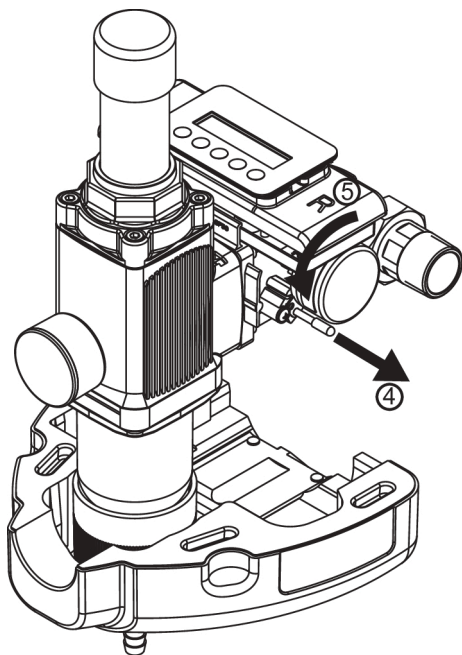

Fig. 10: Remove the red locking pin and rotate the motor
4. Remove the red locking pin (see Figure 10).
5. Turn the motor **counter-clockwise** through approximately 90 degrees ($\frac{1}{4}$ of a turn; see Figure 10). It is not necessary to release any screws to do this.